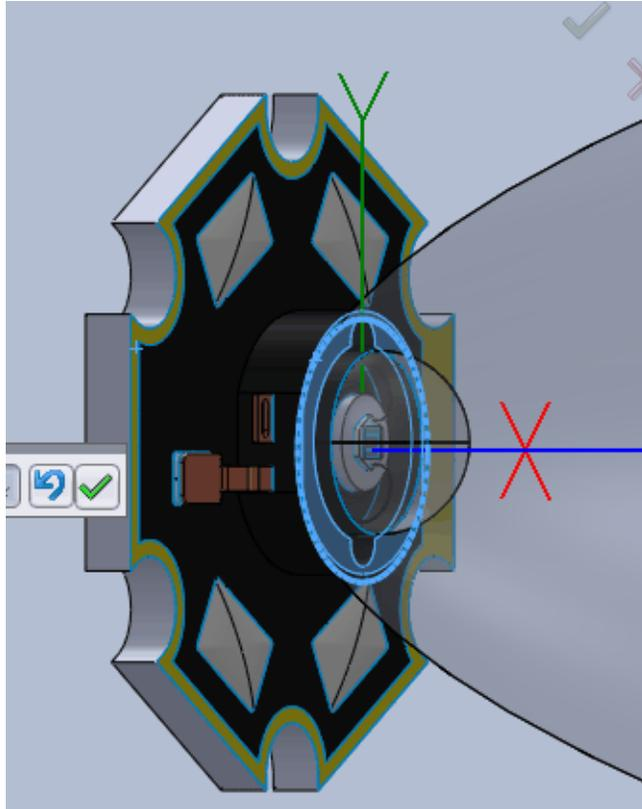

Figure 74 Mated LED and reflector prior to clicking green check mark on toolbar
- 6 Click  on the graphic area toolbar (not on the PropertyManager) to accept the default coincident mate. See Figure 74.